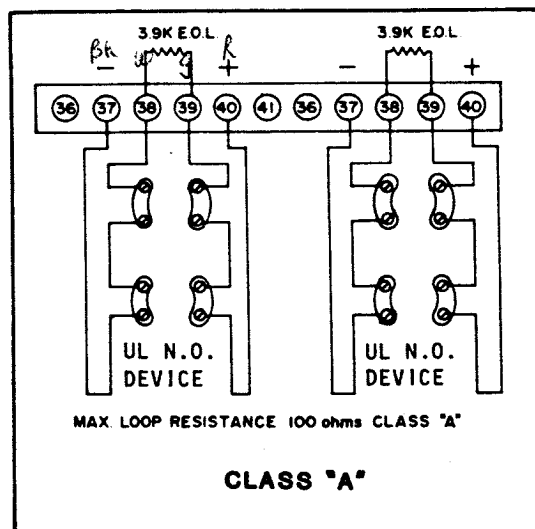

FIGURE 10A
12.1 INITIATING WITH ZONE DETECTOR MODULE (Fig. 10A & 10B)
Class A Operation (Fig. 10A)
Remove the 3.9K OHM, 1/2 WATT resistor from terminals 37 and 40, and connect resistor to terminals 38 and 39. Then connect field wiring per Figure 10A. THE MAXIMUM ALLOWABLE RESISTANCE IN THE FIELD WIRING IS 100 OHMS PER ZONE.